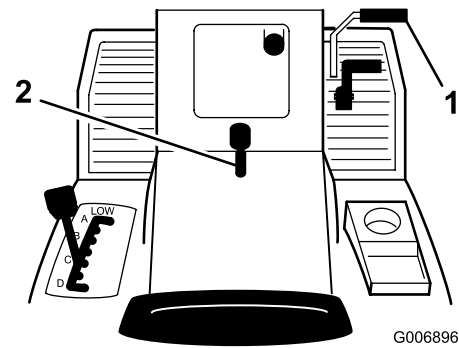

Figure 5
1. Push the brake pedal (Figure 5) down and hold it.
2. Lift the parking brake lever (Figure 5) up and gradually take your foot off of the brake pedal.
1. Push down on the brake pedal (Figure 5).